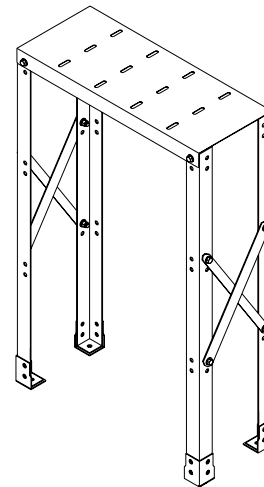

Figure 8.3b
- Loosely attach (finger-tight) top cover and 2 side cross braces on each side to sturdy the corner frames, see Figure 8.3b.